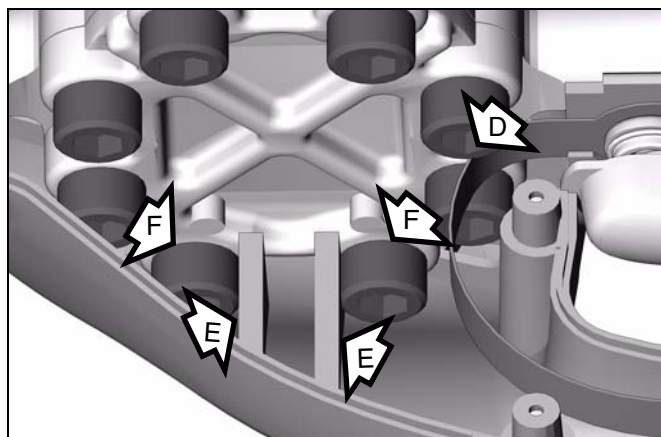
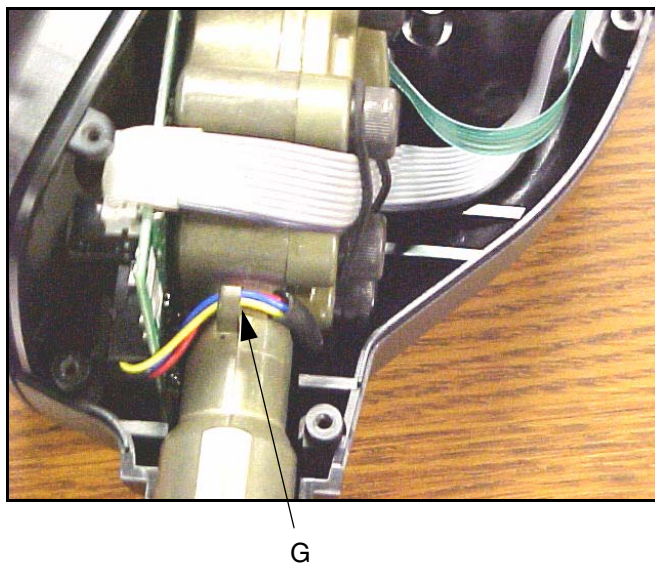
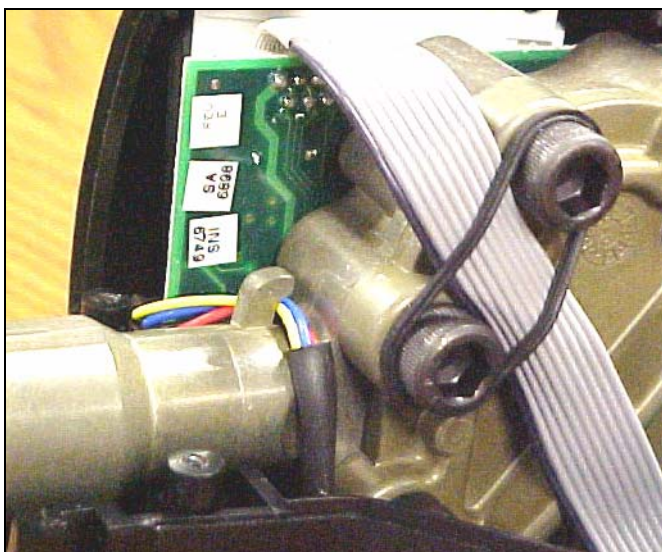

FIG. 45
FIG. 48
FIG. 47
When reconnecting cable D be sure that the wires from the valve housing are properly inserted in the valve housing wire retainer hook (G). See FIG. 48.
16. Place the meter housing into the new right cover half (18) being careful not to dislodge the PSM switch (101).
The two ribs (E) of the new meter cover fit between the two bolts (F) of the meter housing. Be sure not to pinch or crimp the circular switch cable (D) on the new cover half. See FIG. 45.
Ensure that all meter parts are positioned securely and in the correct location. Ensure that all cables are routed correctly throughout the meter and will not be pinched or kinked when the halves are reassembled. See FIG. 47 and FIG. 48.